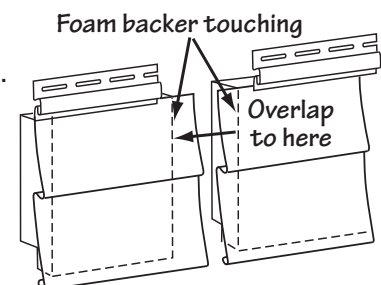

Figure 38.
- When lapping horizontal foam backed siding, slide panels together until the backing forms a continuous coverage (Fig. 38). Do not leave a gap between the backing of each panel.